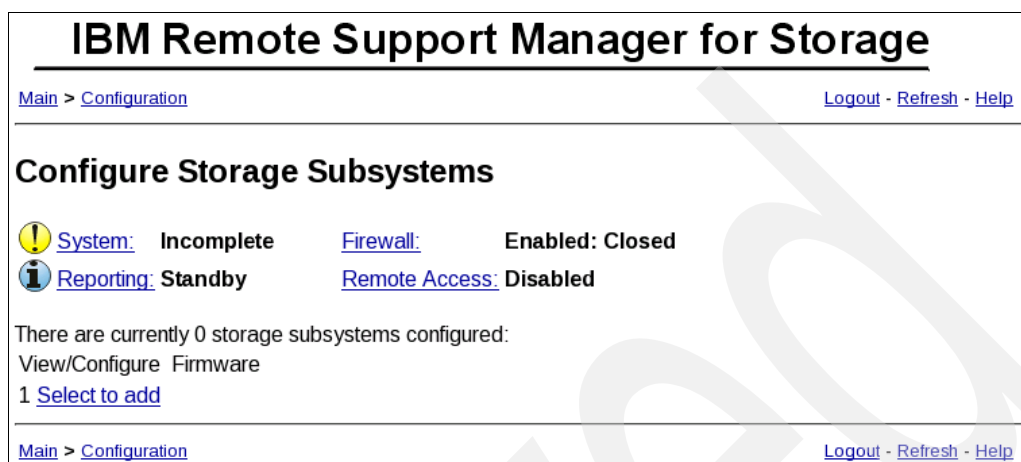

Figure 6-17 RSM configure storage subsystem
13. Click **Select to add** to define a storage subsystem in RSM (Figure 6-17).